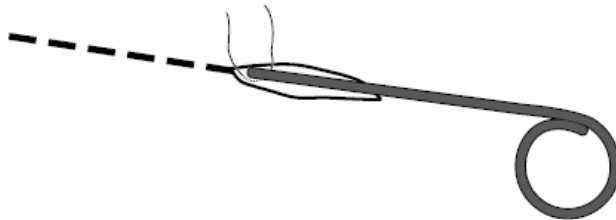

Figure 1.
- With the tunneling tool in place and prior to pulling the percutaneous extension to the pocket site, place a resorbable suture in the tissue around the tunneling rod near the entry site from the pocket (Figure 1).